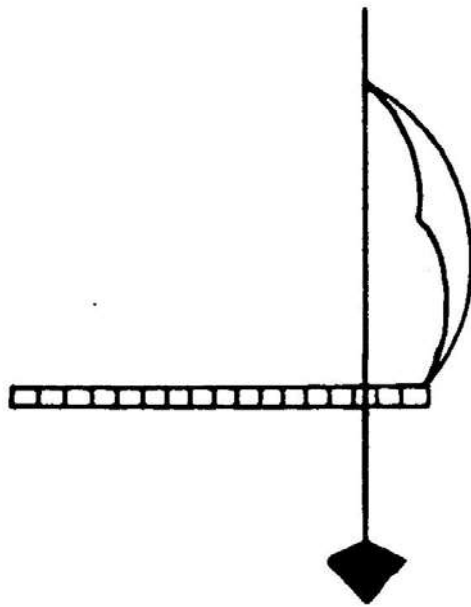

Figure 11- Measuring the pitch of the blade
- 4 Measure the horizontal distance between the bottom edge of the blade and the hanging string (see figure 11).